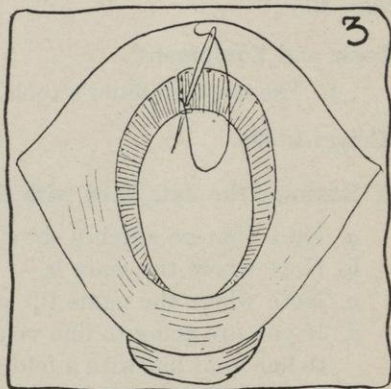

FIG. 3.
- (1) Cut one end of the tie ribbon into a long point (see Figure 3 A).
- (2) Thread a coarse needle with this pointed end of the ribbon (see Figure 3 B).
(3) Push the tie ribbon through the hem, starting with the eye of the needle, and pushing the point until both ends of the ribbon extend a little at each end (see Figure 3 C). **Be sure that the lining is flat and the ribbon is not shirred up.**
b. Either sew or paste the crown tip in place, follow *either* Section (1) *or* Section (2).
- Turn the ribbon in $\frac{1}{2}$ inch, so that it laps over the end where you began (see Figure 3).
- Place a few fastening stitches at the folded end, and sew the joining, where one end of the ribbon laps over the other, very firmly with small stitches. Fasten it very well at the end, or the lining will come apart when it is tried on (see Figure 3).